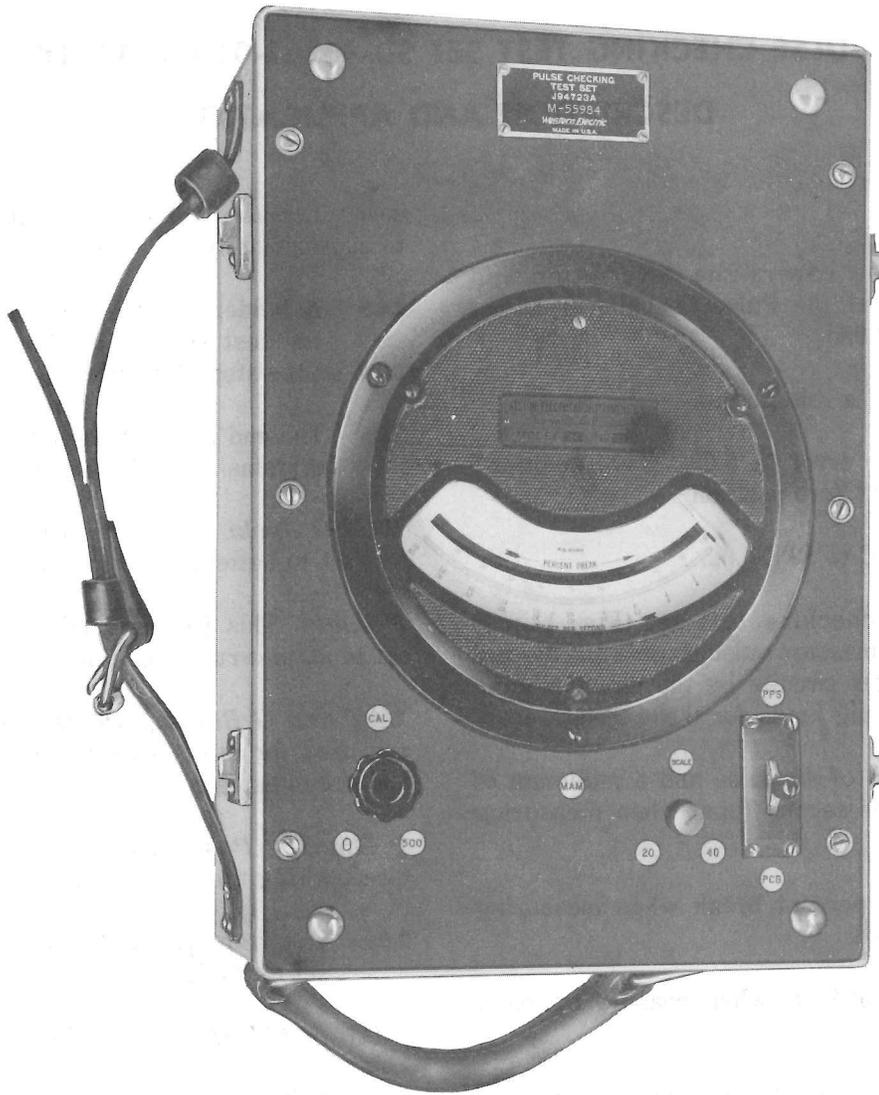

Fig. 1—Pulse Checking Test Set
**1.03** The pulse checking test set (Fig. 1) was designed to measure pulsing speed and percent break of interrupter circuits by the direct reading method. The working limits for these tests are: